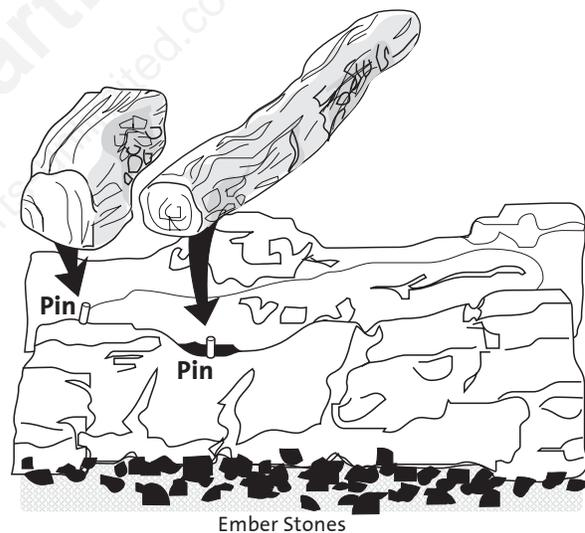

Figure 21. Positioning the top logs and ember stones.
- 4. Install the Cross-over Log and Left Log** as shown in Fig. 21. Engage the pins in the Front Log with the corresponding holes in the bottoms of the upper logs and position the other ends in the notches on the Rear Log.
The package of Ember stones, located in the hardware bag, will simulate glowing coals when the burner is operating. For best results, spread the stones evenly across the burner tube screen. “Pea” size embers create the best appearance, while too large a “chunk” can create long stringy yellow flames. All of the embers do not have to be used. See Fig. 21.